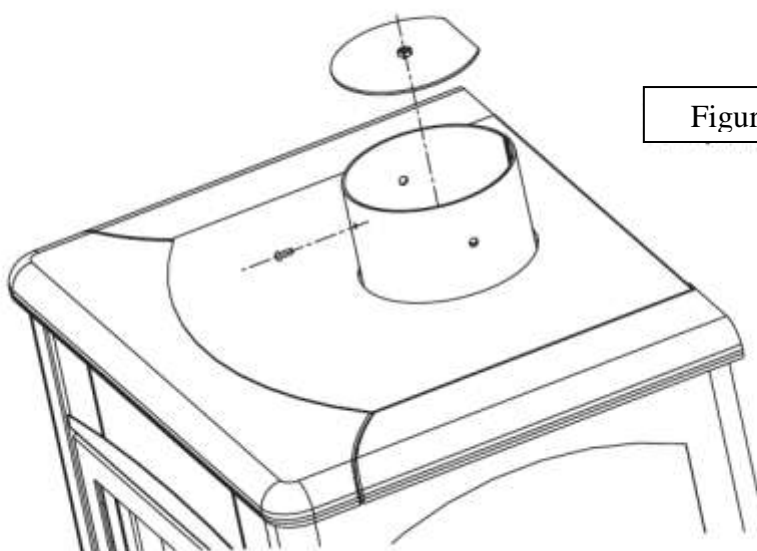

Figure: 3.15.
3. Removed the valve, it is necessary to remove the clamp screw of the fume tube as shown in Figure 3.15.